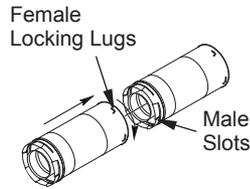
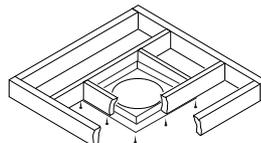

Figure 8 - Vent Pipe Connections
Figure 17 - Installing Firestop
Twist-Lock Procedure: The female ends of the pipes have locking lugs (indentations). These lugs will slide straight into matching slots on the male ends of adjacent pipes. Push pipe sections together and twist one section clockwise approximately one-quarter turn until the sections are fully locked (see Figure 8). *Note:* Horizontal runs of vent must be supported every three feet. Use wall straps for this purpose.
1. Cut a 11 1/2" square hole in the ceiling using the locating hole as a center point. The opening should be framed to 11 1/2" x 11 1/2" inside dimensions, as shown in Figure 8 on page 9 using framing lumber the same size as the ceiling joists. If the area above the ceiling is an insulated ceiling or an attic, nail firestop from the top side. This prevents loose insulation from falling into the required clearance space. Of the area above the ceiling is a living space, install firestop below the framed hole. The firestop should be installed with no less than three nails per side (see Figure 17).
Figure 17 shows the configurations for vertical termination.